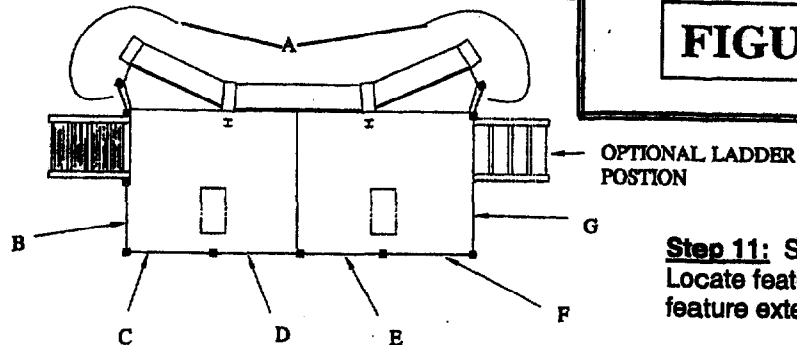

FIGURE 11
Step 10: See figure 11. Attach deck castings and front coping covers.